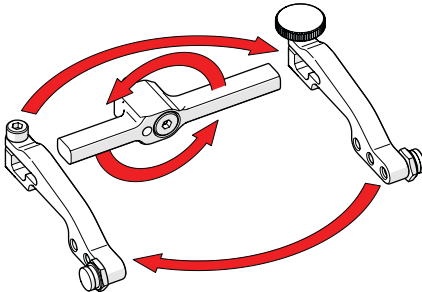

Fig. 122 - Flip yoke and reverse arms
4. Flip the yoke 180° and reverse the probe holder arms (Fig. 122).